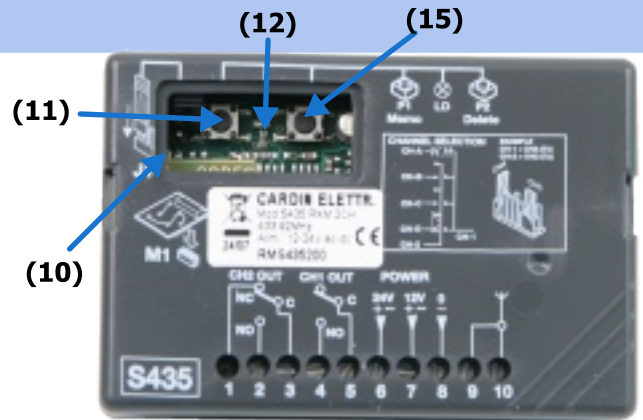
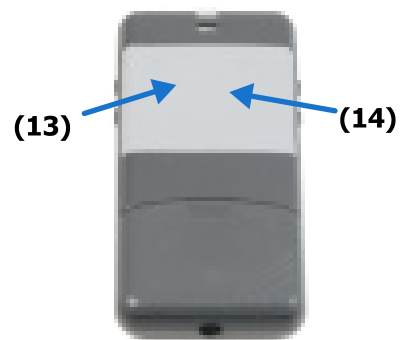

Abb.7
Abb.8
- 1) Open the cover (Abb.7 Nr.10) at the receiver.
- 2) Press the left button (Abb.7 Nr.11) . The LED in the middle of the two buttons will flashing slowly(Abb.7 Nr.12).
- 3) Hold hte button (Abb.7 Nr.11) and press at the same time the left button on the transmitter (Abb.8 Nr. 13). The LED (Abb.7 Nr.12) will flashing very fast if the button is programmed.
- 4) Stop pressing the button (Abb.7 Nr.11)
- 5) For programming the second transmitter button repeat beginning step 2 and use the right button on the transmitter(Abb.8 Nr.14).
- 1) open the cover at the receiver (Abb.7 Nr.10).
- 2) Press the both buttons on the receiver(Abb.7 Nr.11 + 15). If the LED (Abb.7 Nr.12) is flashing very fast the receiver is reseted and you can stop pressing the buttons.